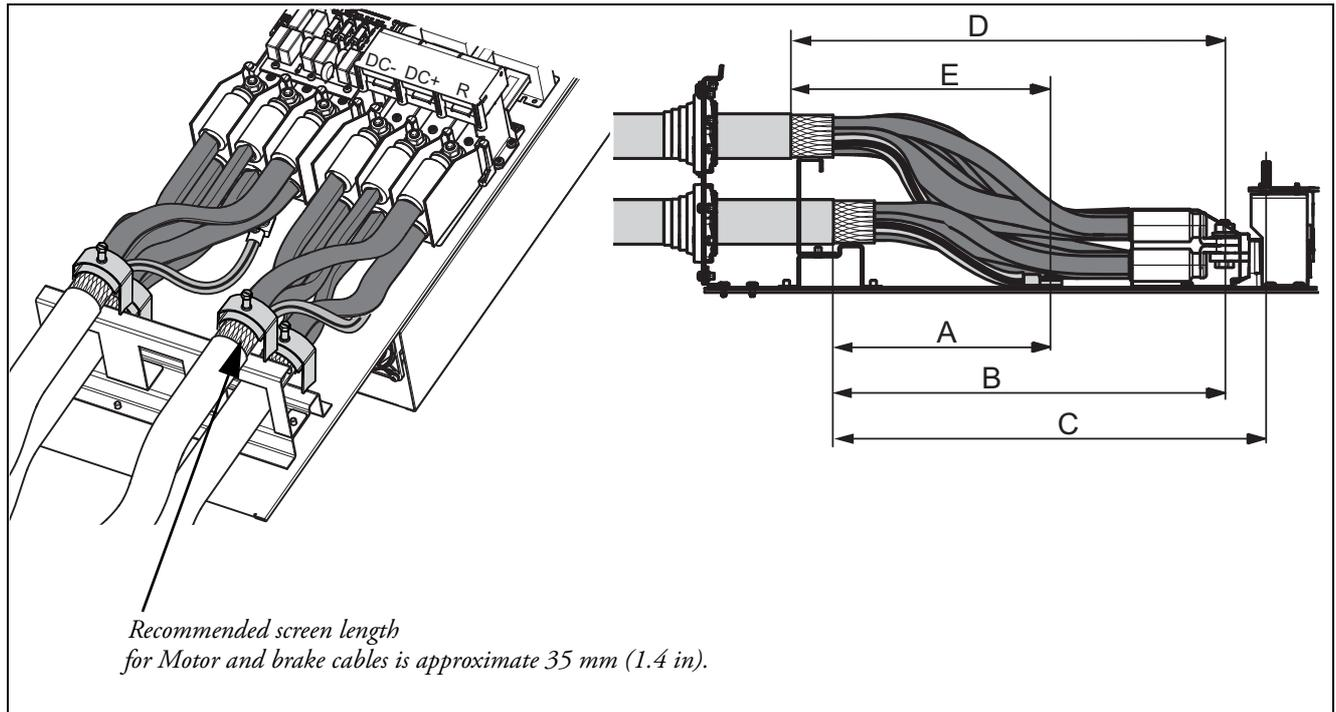

Fig. 55 Distances from the cable clamp to the connection bolts size FA.
- Strip the cables according to Table 17 and Fig. 55.
Fig. 55 indicates the distance from the cable clamp to the connection bolts for decision of stripping lengths for the cables.